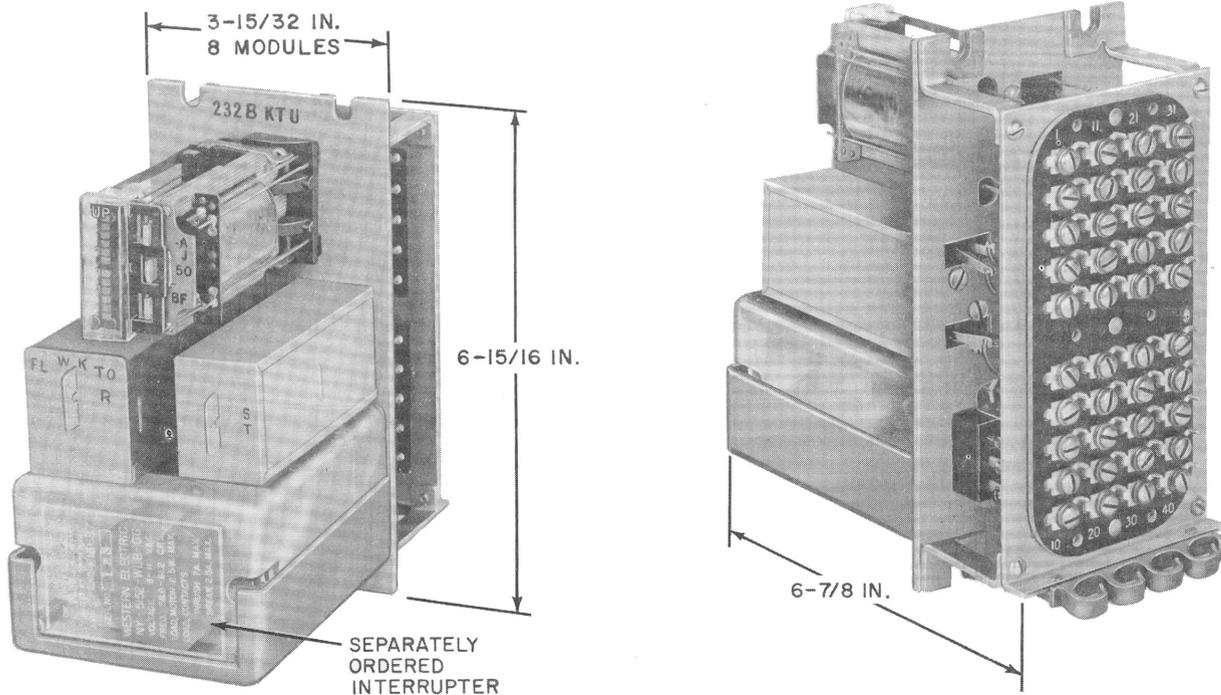

Fig. 1—232B Key Telephone Unit
2.01 The 232A (MD) or 232B KTU equipped with an optional 10-volt ac or 24-volt dc plug-in interrupter (Fig. 1) furnishes timing intervals and features for key telephone systems as follows:
**2.10** The interrupter unit is installed as shown in Fig. 1. When installing, ensure that the unit is fully seated into the socket and held firmly in place by the adjustable bracket. The plug-in arrangement simplifies unit replacement. The bracket must be removed to install or remove the interrupter unit.